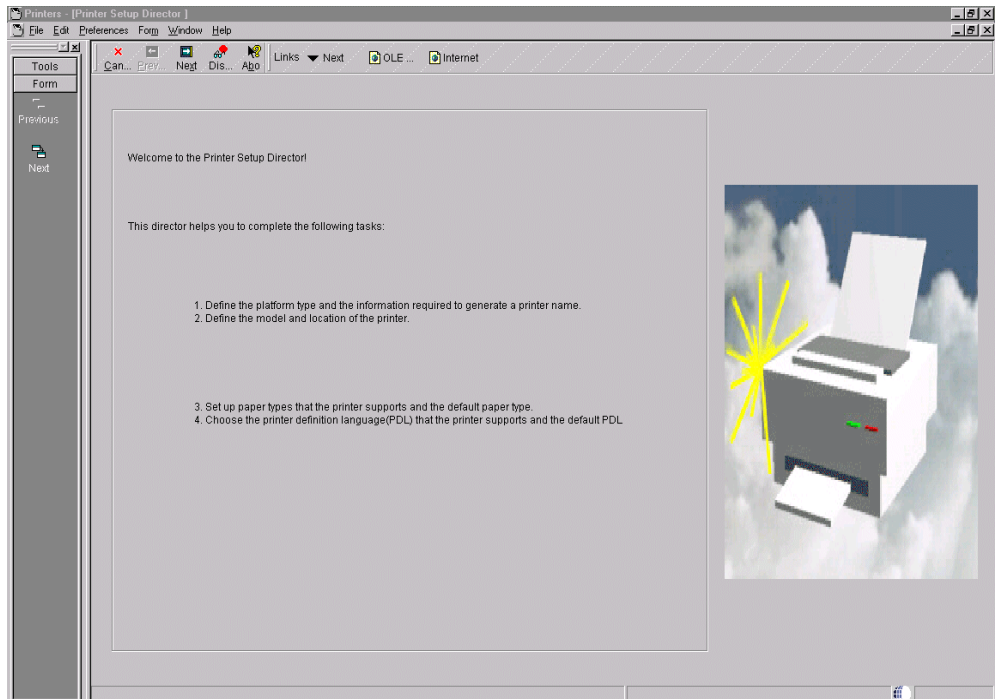

Figure 188. Work with physical printers menu (Part 2 of 2)
- From the Printers Window, click the **Add Printer** button (the printer picture with a star on the left side (Figure 188)).